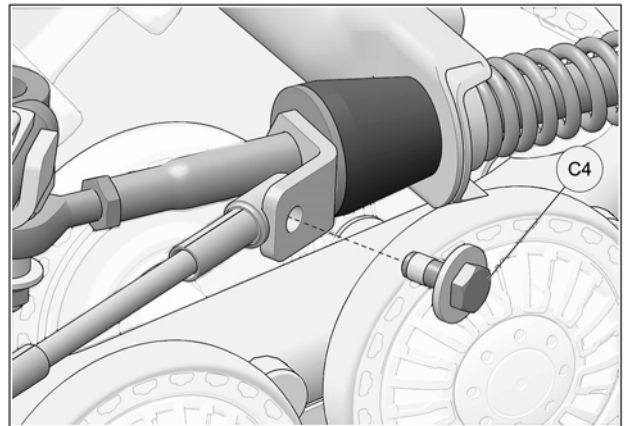

Fig. 21
16. Reverse steering wheel a little to be able to bolt support plate and cable together. Tighten provided bolt (C4) to 35 N•m [24 lb•ft]. See Fig. 21. Repeat steps on right side.